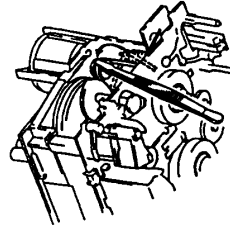

Fig. 14
- Place the capstan belt on the capstan motor pulley. Do not twist the capstan belt (fig. 14).